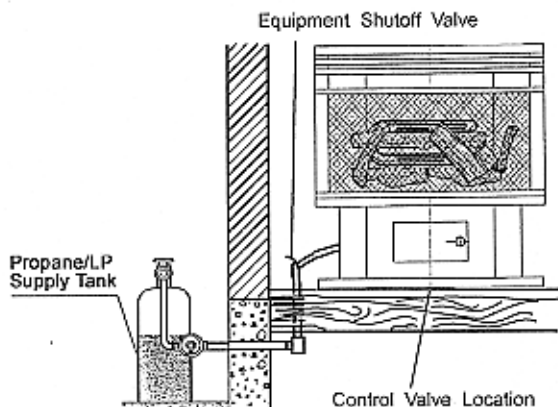
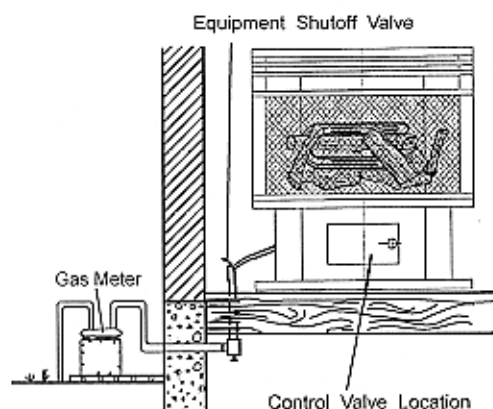

Figure 9.1 - Checking Gas Joints
Figure 9.2 - Checking Gas Joints
4. Check all joints from equipment shutoff valve to control valve (LP GAS see Figure 9.1 NATURAL GAS see Figure 9.2). Apply mixture of liquid soap and water to gas joints. Bubbles forming show a leak.